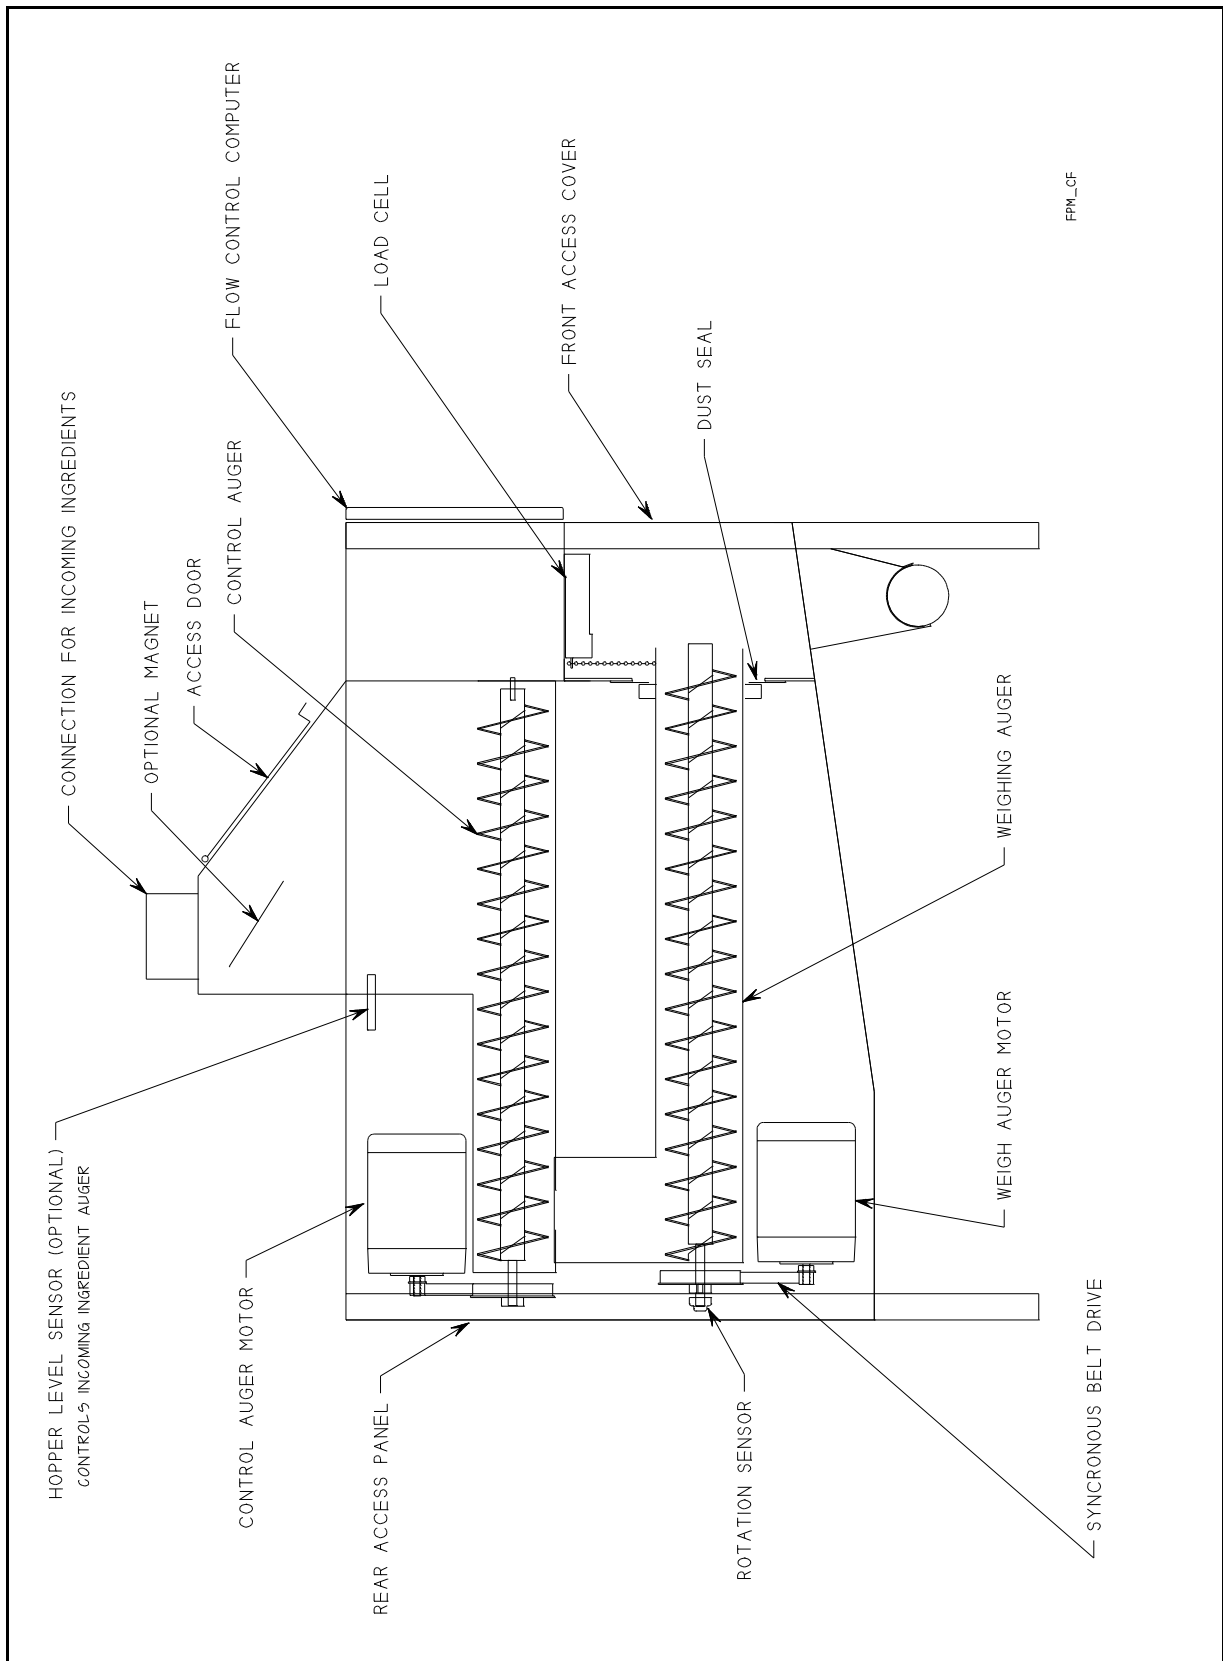

Figure 1. Continuous Flow Unit.
| Figure 1. Continuous Flow Unit | 3 |
1. Continuous flow (CF) units. The ingredient is weighed in a special auger as it flows through the auger. The auger speeds are controlled to deliver at the set flowrate. The CF unit is generally used for flows over 250 lb/hour, although lower flowrates are possible. A drawing showing the important components is shown in Figure 1.